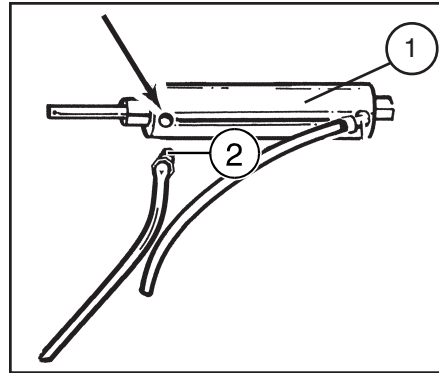

Figure 33 : Attaching the Elbow and Orifice Assembly
Step 31: Apply thread sealant or teflon tape to the threads of the elbow and orifice assembly (Item 2). Take care not to cover the hole in the orifice. Install Item 2 carefully into the air cylinder (see Figure 33).